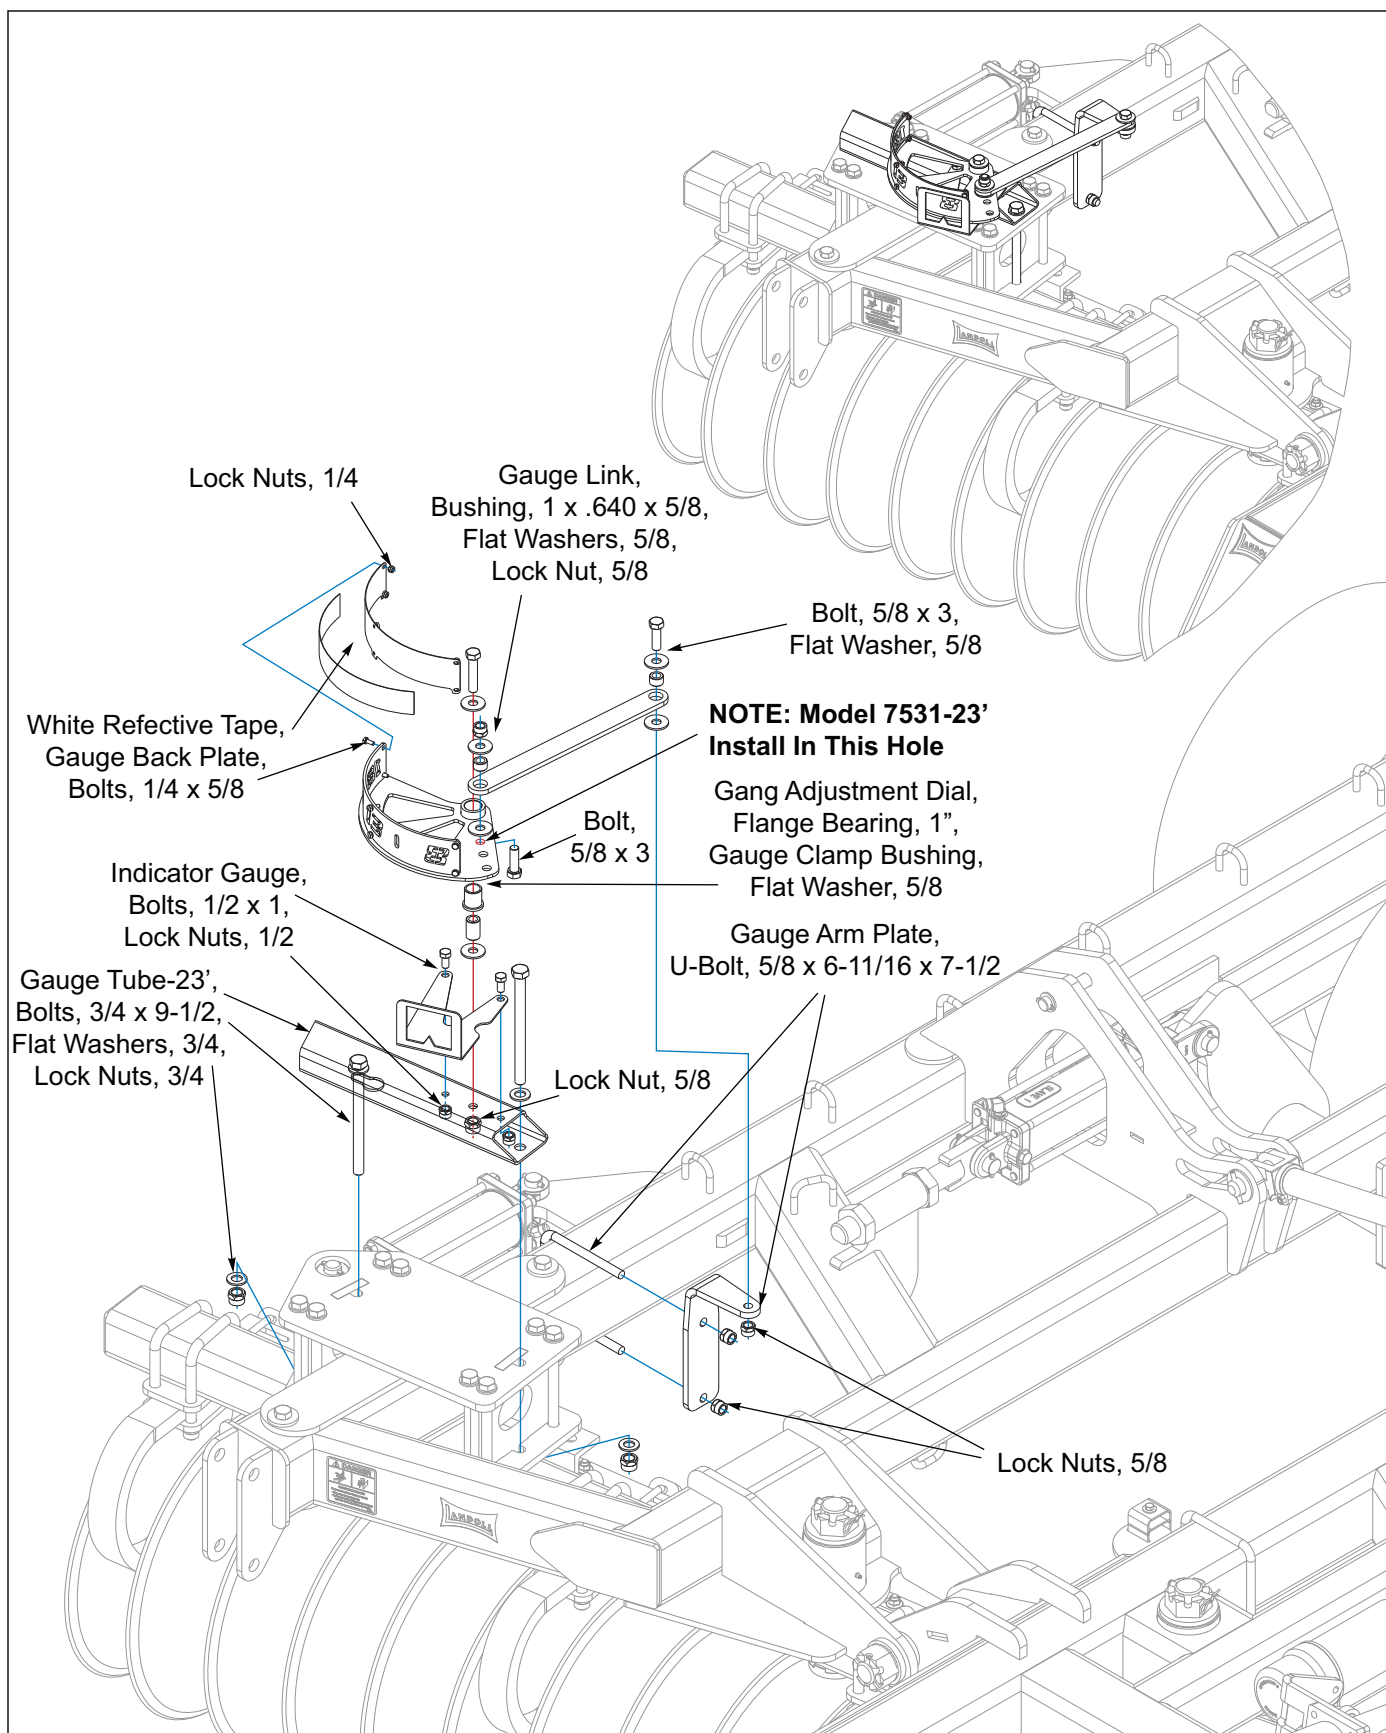
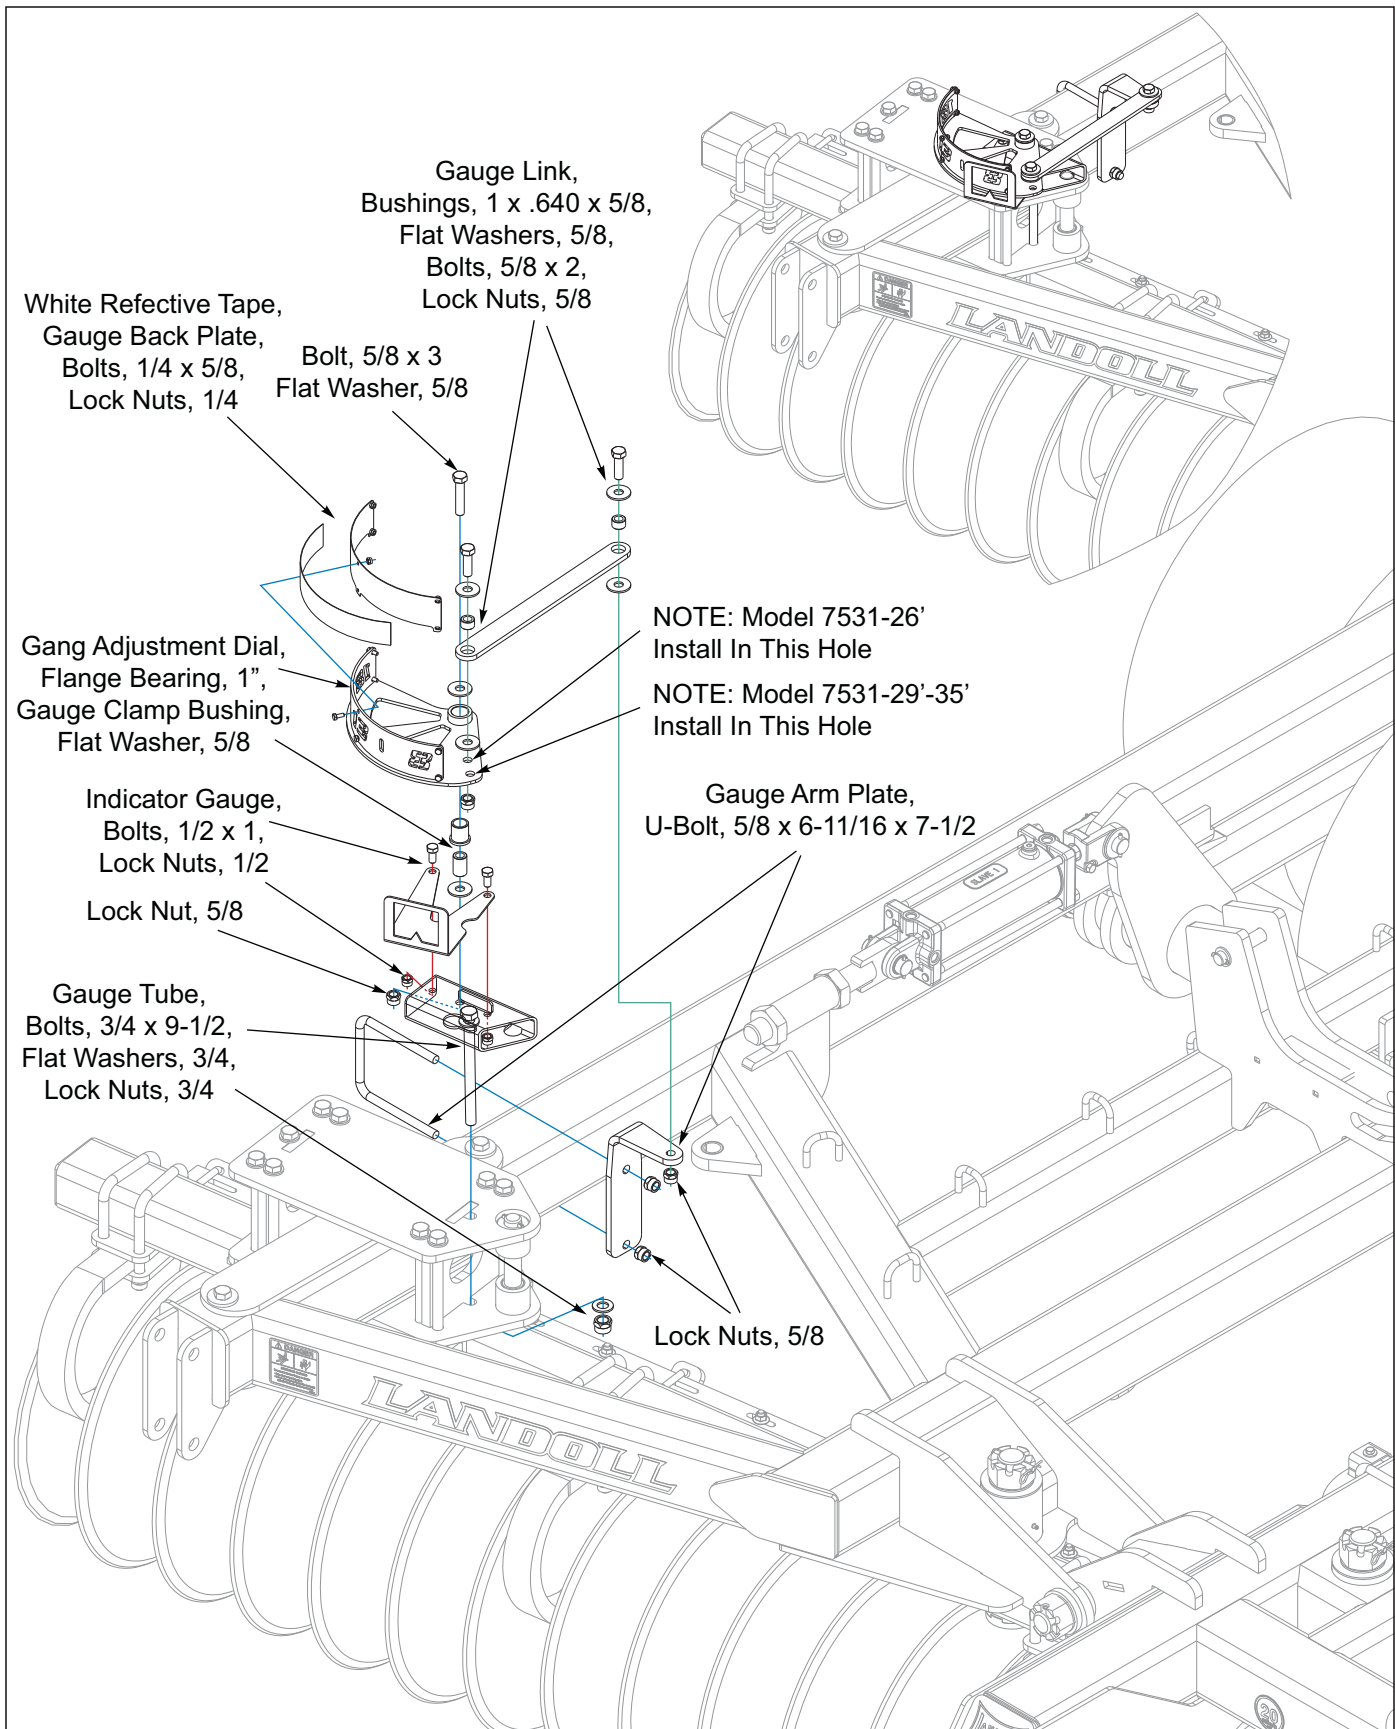

Figure 3-40: Disc Gang Adjust Gauge Installation 7531-23'
Figure 3-42: Disc Gang Adjust Gauge Installation 7531-26'-35'
6. Install the gang adjust gauge as shown *See Figures 3-40, 7531-23', See Figures 3-42, 7531-26'/29'/32'/35'* The gauge link will need to be mounted to the second hole in the gang adjust dial for the 7531-23'/26' VT and the first hole for the 7531-29'/32'/35' VT.
*To calibrate gauge the disc gangs will need to be adjusted to the 18° angle with hydraulics. Then manually rotate gang adjust dial to 18° setting in indicator gauge. Now the 5/8 x 6-11/16 x 7-1/2 u-bolts and lock nuts may be tightened *See Figures 3-40, 7531-23', See Figures 3-42, 7531-26'/29'/32'/35'*.*